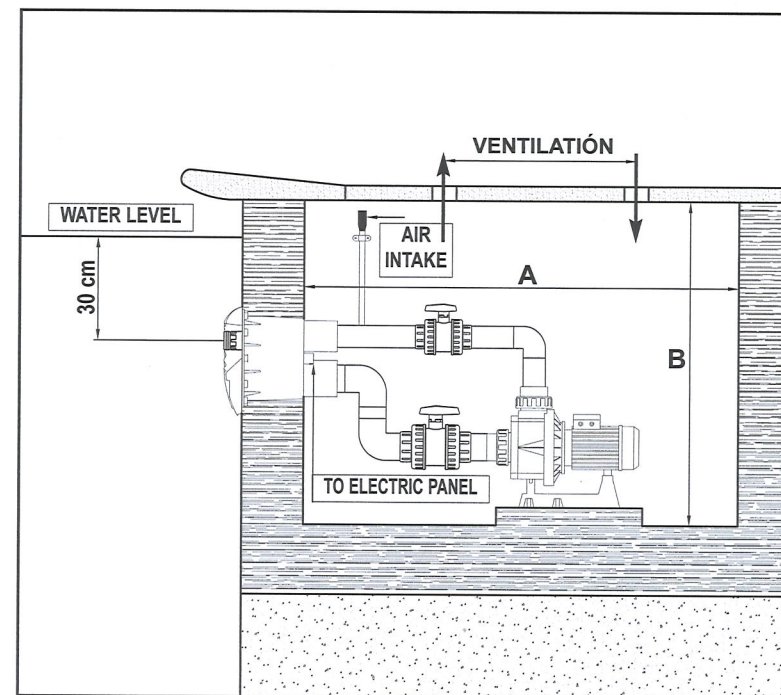

Fig. 8
This line is made up of a hose (no.24), a flexible pipe (no.25), a male screw fitting (no.26) and a foot valve (no.27). All these parts are supplied fitted, so it is only necessary to glue the end of the hose (no.24) to the pipe (no.23) which is already fitted in the niche. It is important to fix the air line pipe to the wall of the housing so as to ensure that the foot valve is in the upper part. This is so as to avoid sucking up dirt (see fig. 8, page 20).
10.1 Before installing the HIDROJET, equipment it is necessary to take into account the dimensions of the housing in which it will be located. You should check to ensure that you will not have space problems when installing the pump. To do so, check the minimum clearances needed for the installation, as shown in the table and in Figure 8.